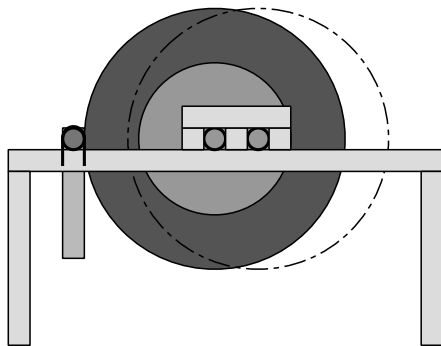
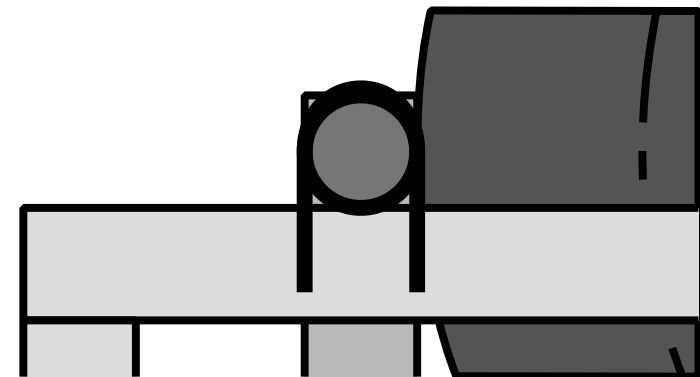

Figure 7: brake beam position.
Figure 8: brake beam position - detail.
- 8) Now turn the cart upside down, put the brake in position and place the remaining four U-loops over the brake torque tube as shown in Figure 7 and Figure 8.